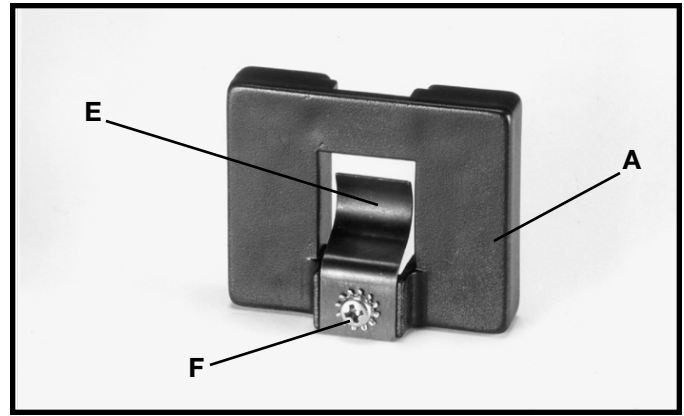
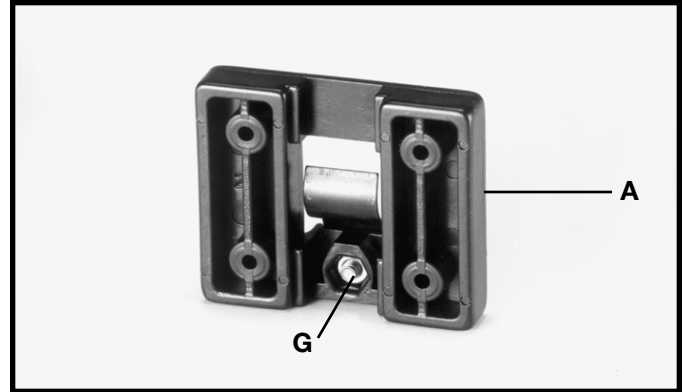

Fig. 26
Fig. 27
1. Assemble spring clip (E) Fig. 26, to the miter gage holder (A) as shown using a M4x.7x10mm pan head screw (F), 3/16" lockwasher and M4x.7 hex nut. **NOTE:** Hex nut (G) Fig. 27, will fit into the recess at the back of the miter gage holder (A) to keep spring clip (E) Fig. 26, secured to the miter gage holder.